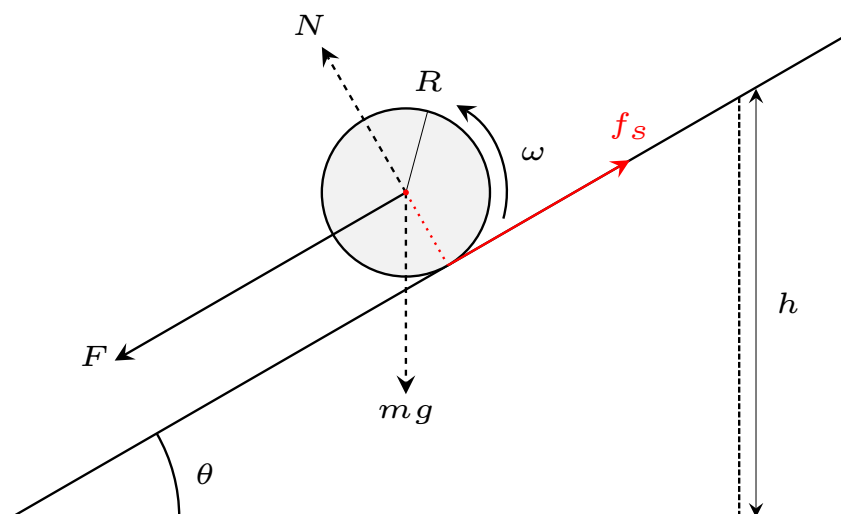

Figure 1: A hoop rolling down a fixed inclined plane.
2. A hoop of mass m and radius R rolls without slipping down a fixed inclined plane inclined at an angle θ to the horizontal as shown in Fig. 1.